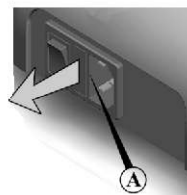

Fig.4 Fuse holder
6.4. Replacement of fuses (fig.4)